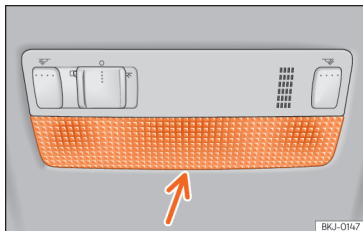

Fig. 61 Front reading light.
- Insert a fine screwdriver between the casing and the glass »» **Fig. 61**.